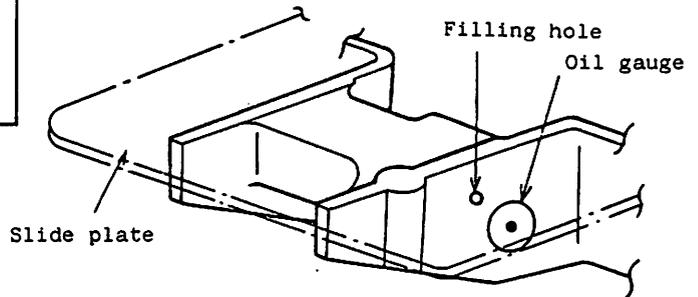

Fig. 9.3
- (1) Locate the needle at the highest position and open the slide plate (see Fig. 9.3).
- (2) Fully open the bobbin case latch (A) and, while holding the latch, put it into (B).